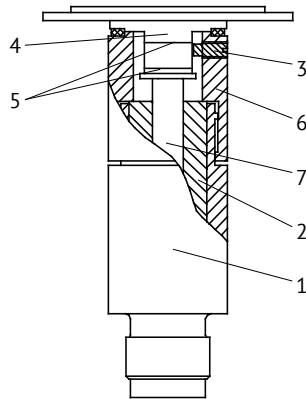

Fig. 5. PSA for MP-6:
To determine the piston equilibrium, a mark is made at the body lower part (in the case of MII-6, this mark is applied on receptacle lower section). PSA design is shown in Figs. 5 and 6. Weights are flat rings and disks of different diameters.
screw to withdraw piston with receptacle and cylinder. Screw out nut 6 (Figs. 5, 6) without lock nut 3, detach it with piston and receptacle. Then, withdraw the cylinder and nut from the piston..
6.13 Grease the PSA cylinder with oil and move the cylinder lower end to cylinder hole and accurately fit it therein. In case the nut has not lock screw, fit first the piston in the shifted opening of nut 6, Figs. 5, 6.